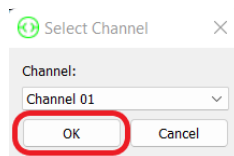

Figure 84: Recipe Editor – 'Select Channel' window
2. In the 'Select Channel' window that opened, using the drop-down menu, select which channel you would like to read an existing recipe from and click the "OK" button highlighted in Figure 84 below.